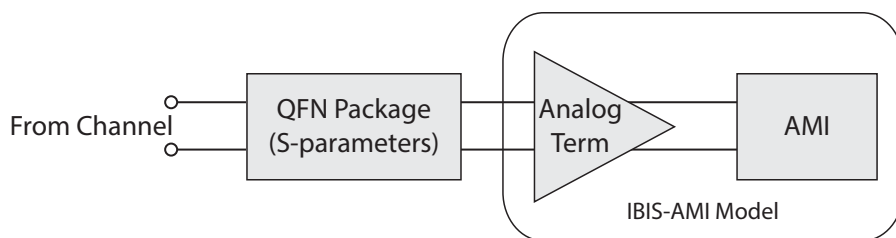

Figure 2-2: GS6080 Receiver IBIS-AMI Model
The GS6080 Receiver IBIS-AMI model consists of three parts: (1) the Analog Termination IBIS model, (2) the Receiver AMI model and (3) the QFN package model. The block diagram in Figure 2-2 shows the sequence of signal flow and the individual parts of the model. The external S-parameter file for the QFN Package model extends the accuracy of the package effects beyond what can be described by R, L and C components in the current IBIS 6.0 standard. The external S-parameter data is processed as part of the channel by the EDA platform.